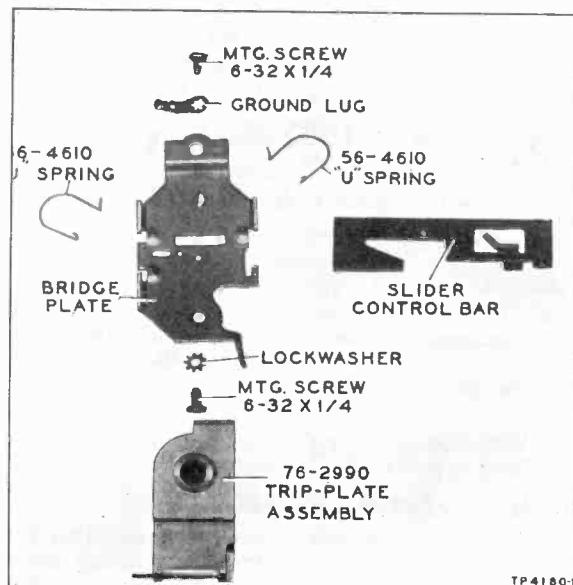

Figure 24. Bridge Assembly
- b. Remove link rod, Part No. 56-4589FA3, from slider control bar. Complete assembly of bridge is shown in figure 24.